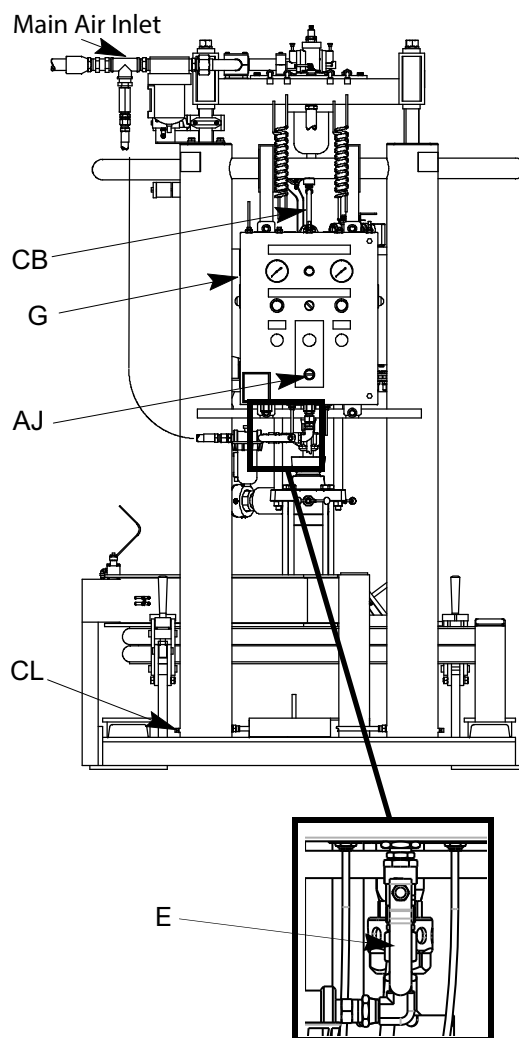

FIG. 11
At the Pneumatic Logic Panel (G) (FIG. 11), perform the following steps:
- 1. Close the Main Air Inlet Valve (E). See FIG. 11.
3. Once both safety hitch pins (806) are secured, adjust the RAM DOWN air regulator to 0 psi and move the RAM POSITION Switch to the LOWER position. Allow time for the ram to lower until it is resting on the safety pins. See FIG. 11 on page 29.